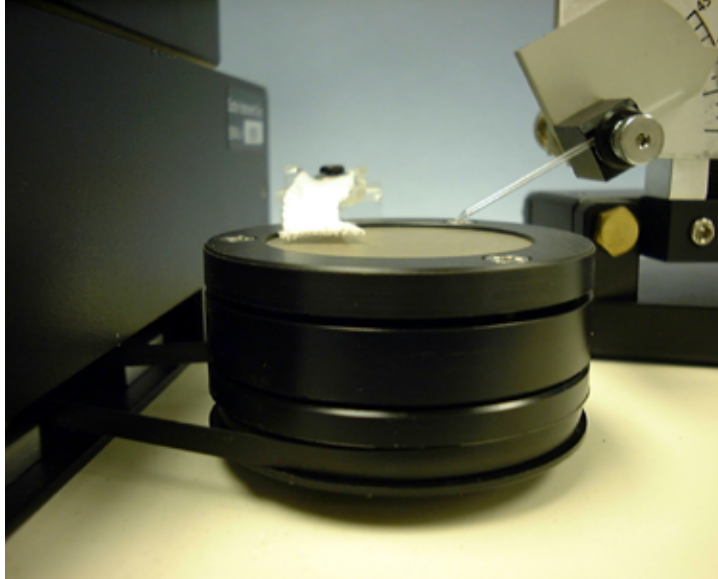

Figure 1-2. Pedestal/Grinding Assembly.
- b. Identify the abrasive surface on the grinding plate. The top abrasive surface has a speckled finish -- it is marked with a part number. Place grinding plate between the two retaining rings with abrasive surface facing the top retaining ring as per Figure 1-2. Secure in place by screwing upper retaining ring to lower retaining ring. Tighten screws down until you feel a slight resistance and then turn them another 1/8 turn.